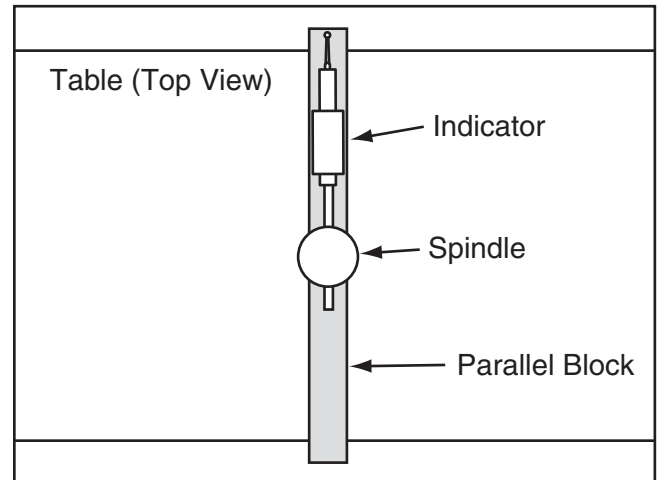

Figure 72. Parallel block and indicator positioned for the Y-axis measurement (top view).
- Place the parallel block directly under the spindle and across the width of the table, as illustrated in **Figure 72**.
- Rotate the spindle so the indicator point rests on the parallel bar, as illustrated in **Figure 72**, then zero the dial.